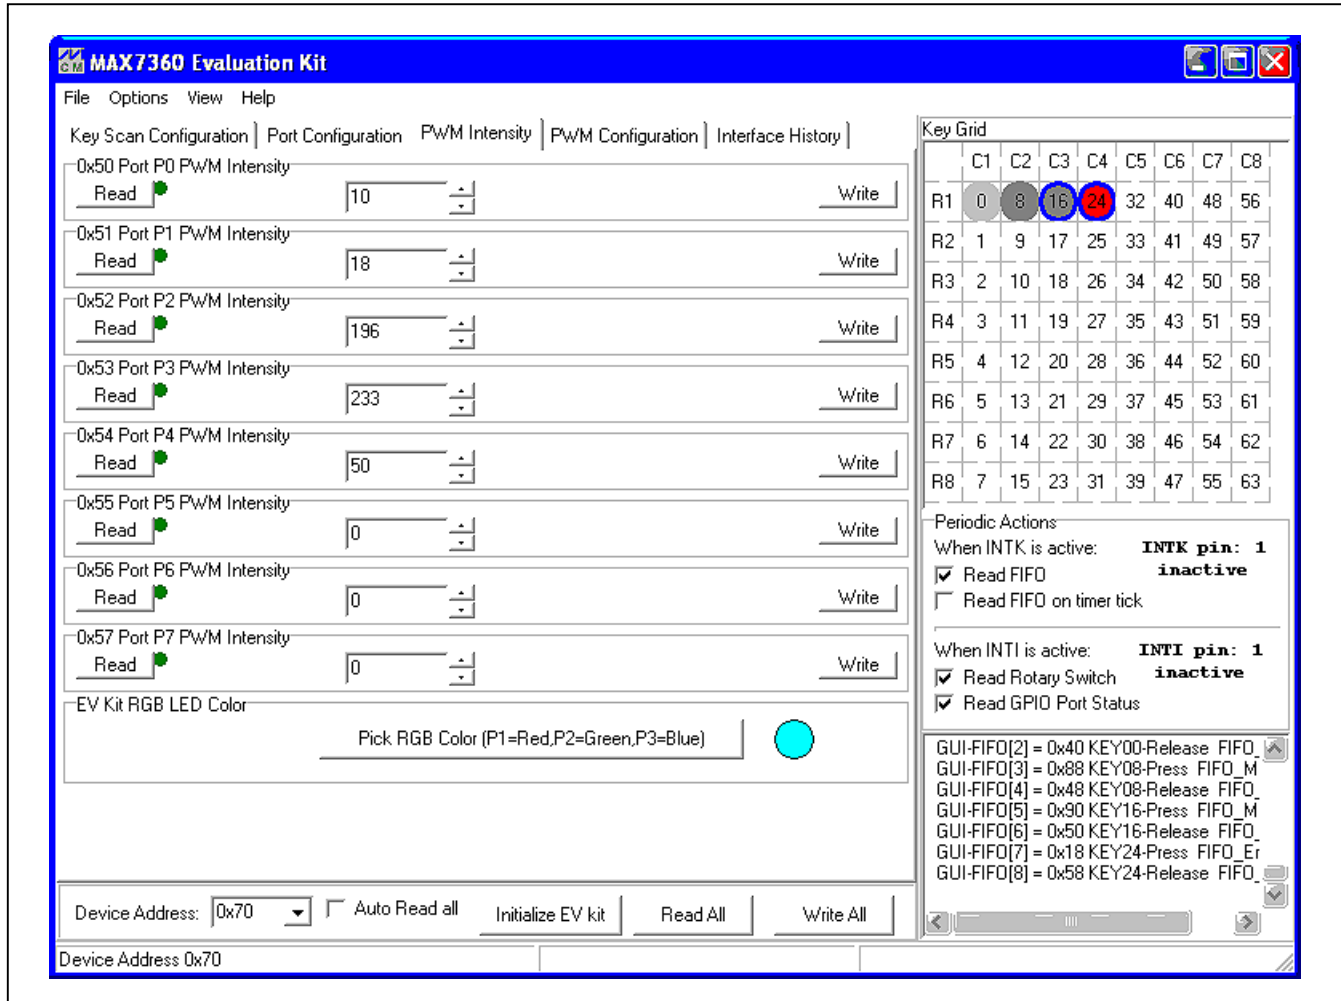

Figure 3. MAX7360 EV Kit Software Main Window (PWM Intensity Tab)
- 15) In the software's **PWM Intensity** tab (Figure 3), set **0x54 Port P4 PWM Intensity** to 100 and press the **Write** button. LED6 should now be brightly lit.